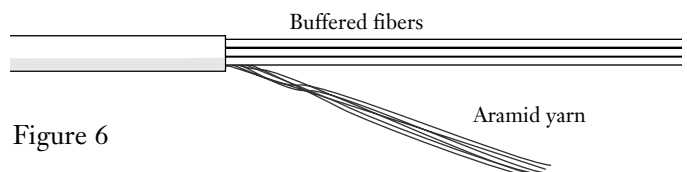

Figure 6
**4.7** Use scissors to cut the aramid yarn and side cutters to cut the central member to the lengths recommended in the documentation for the product you are installing (Figure 6).